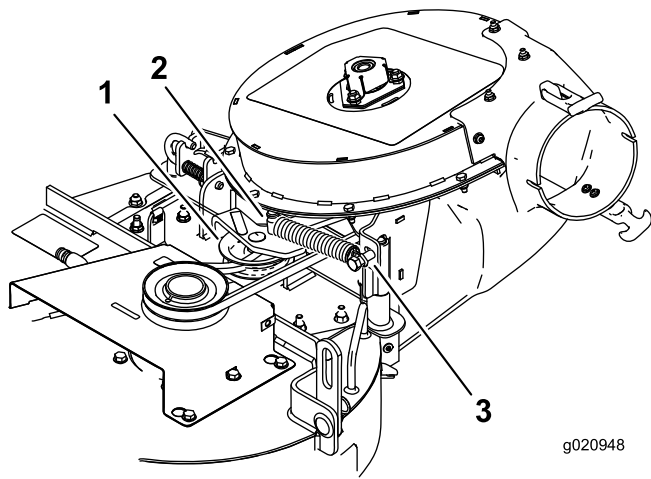

Figure 30
11. Install the spring onto the idler pulley post (Figure 30).
12. Stretch and install the spring onto the shoulder bolt (Figure 30).